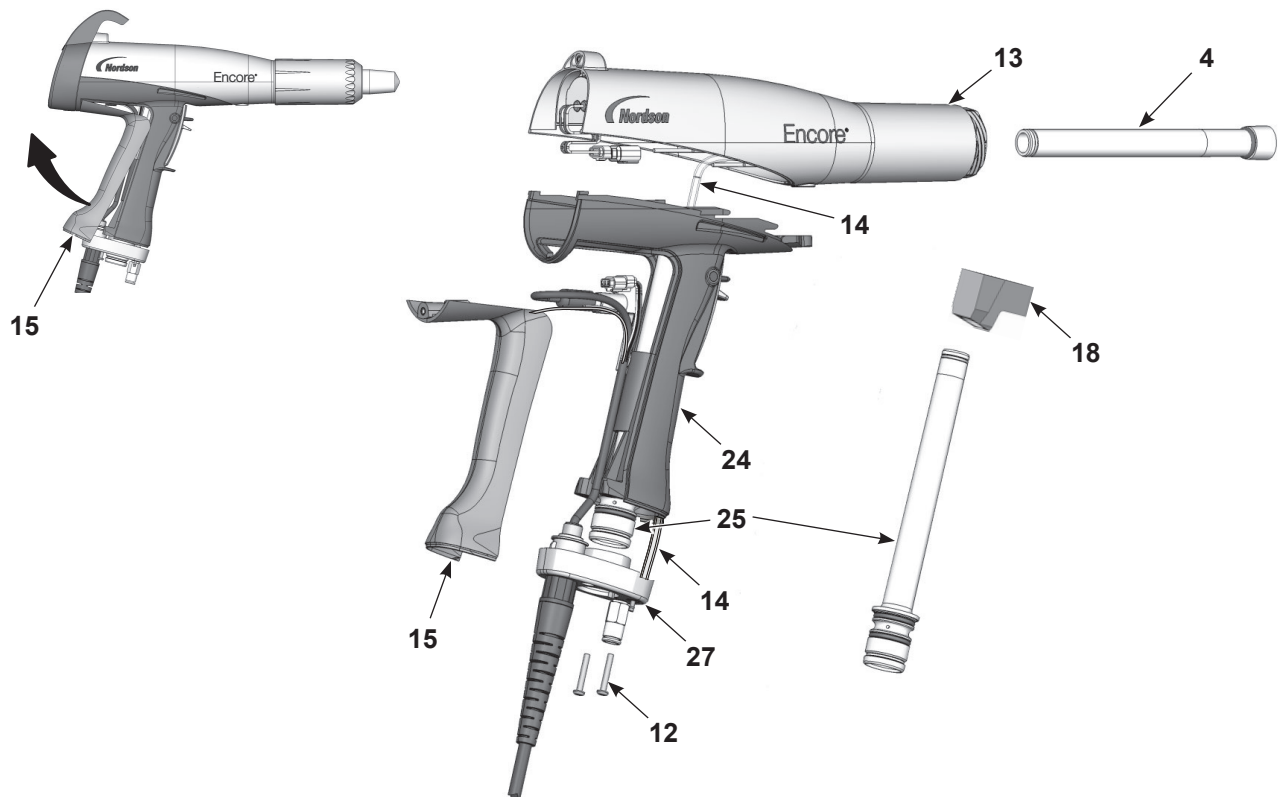

Figure 6-4 Powder Path Replacement
1. See Figure 6-4. Remove the elbow (18) from the inlet tube (25).
2. Remove the two M3 x 20 screws (12) from the handle base (27). Pull the base away from the handle, swing the bottom of the ground pad (15) up and away from the handle, then remove it. Leave the ground wire connected to the ground pad.
3. Push the inlet tube (25) up and out of the base, then move the base out of the way and pull the inlet tube out of the handle.
4. Push the outlet tube (4) out of the front of the gun body (13).
1. See Figure 6-4. Install the outlet tube (4) into the gun body (13), with the end of the tube flush with the end of the gun.
2. Install the inlet tube (25) into the handle (24), then install the end of the tube into the handle base (27).
3. Push the handle base close to the handle, then hook the top end of the ground pad (15) into the body and rotate it onto the handle. Make sure the cable wires are not pinched or trapped during re-assembly.
4. Install the handle base onto the handle and ground pad and secure it with the two M3 x 20 screws (12).